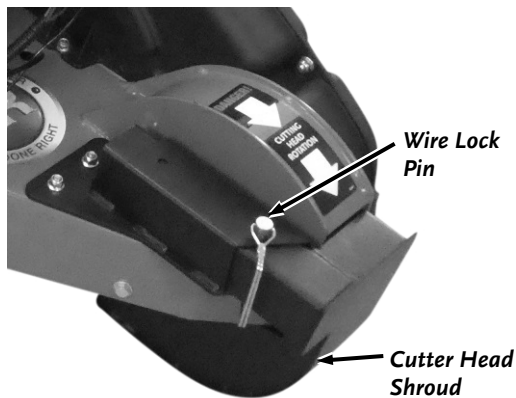

Figure 28
1. Slide the Cutter Head Shroud into the Tow Bar Adapter (**Figure 28**). Secure with the 3/8" X 3" Wire Lock Pin.